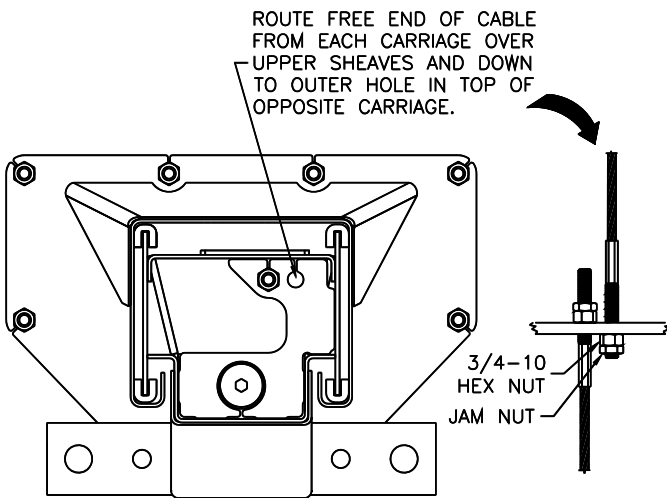

Fig. 12 – Cable Attachment at the Carriage
- 32) Mount synchronizer cables to carriages as shown in Fig. 12.